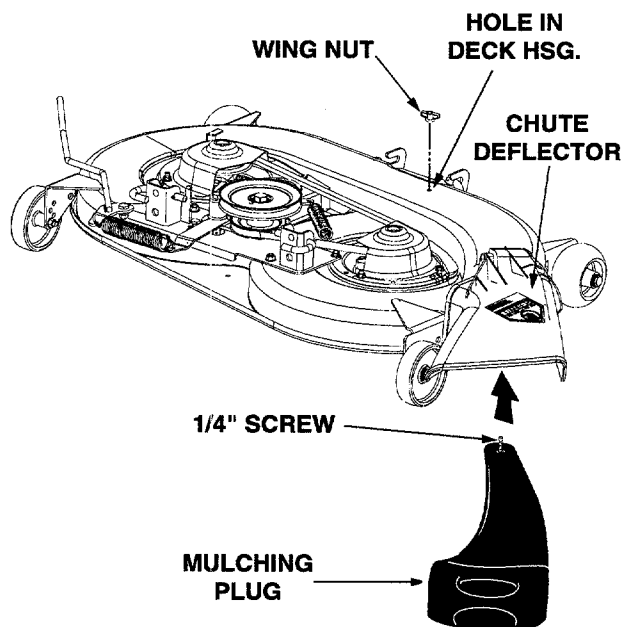

Figure 64
2. Lift the chute deflector upward and insert the mulching plug into the discharge opening of the deck (Refer to Figure 64).
3. Position the mulching plug so that the 1/4" screw at the inner end of the plug can be inserted up through the hole in the top of the deck housing. Secure with the wing nut (See Figure 64).